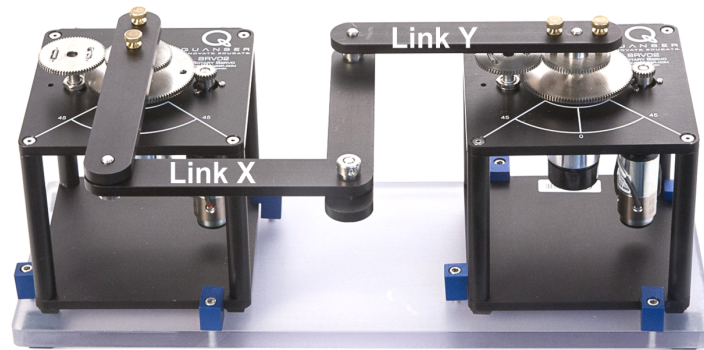

Figure 4.1: 2 DOF Robot System
1. Setup the 2 DOF Robot system as described in Reference [1] but ensure that **link Y is underneath link X**, as shown in Figure 4.1.